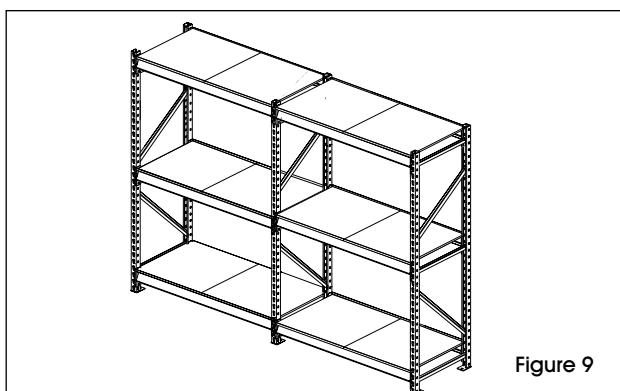

Figure 9
11. Set boards, wire or steel decks in place on top of shelf beams and shelf supports. (See Figure 9)